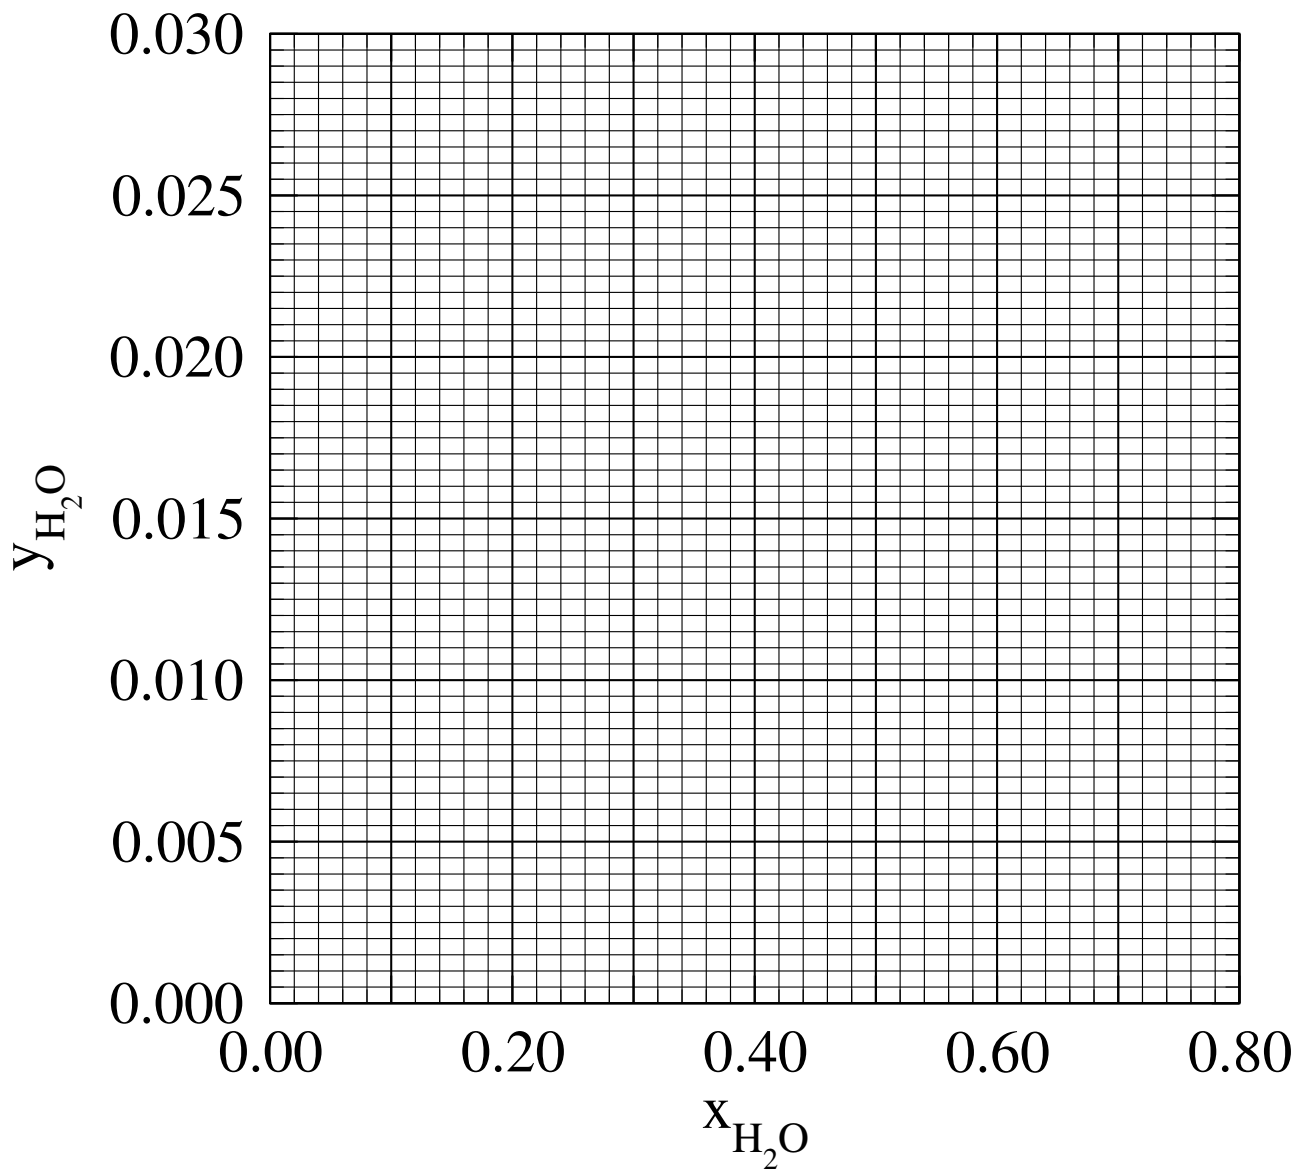

Figure 13: Blank graph for the air dryer in Q. 4.12.
- b) Using the equilibrium data provided in Table 2, determine the number of equilibrium stages required to perform the absorption. Plot your graph in x - y coordinates on Fig. 13 and ensure that you adequately capture the curvature of the operating line (or use X - Y coordinates). **[12 marks]**